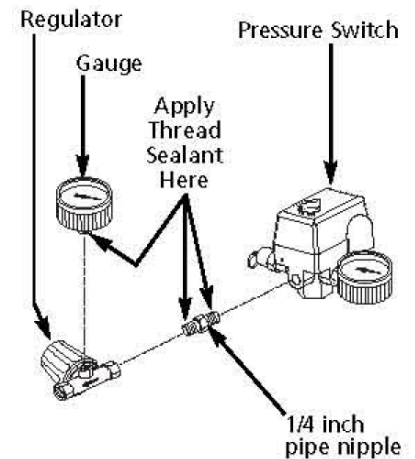
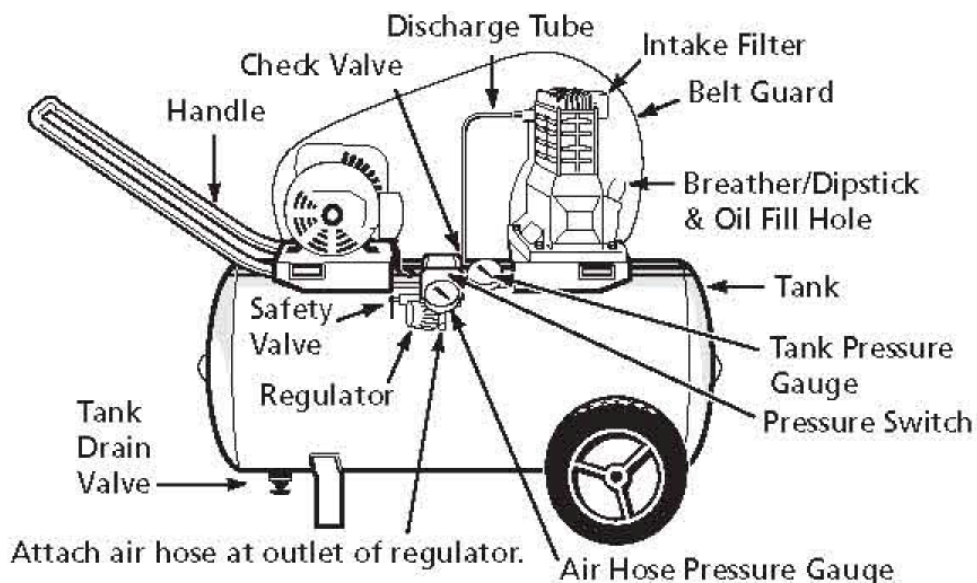

Figure 2
Figure 1
2) The assembly is designed to be attached only to the pressure switch outlet (see Fig 1 on page 6) by inserting the pipe nipple (see Fig 2) and turning the assembly clockwise. Tighten until snug. The gauge should be oriented the same as the gauge already on the pressure switch (see Fig 1). Attach the hose and tire